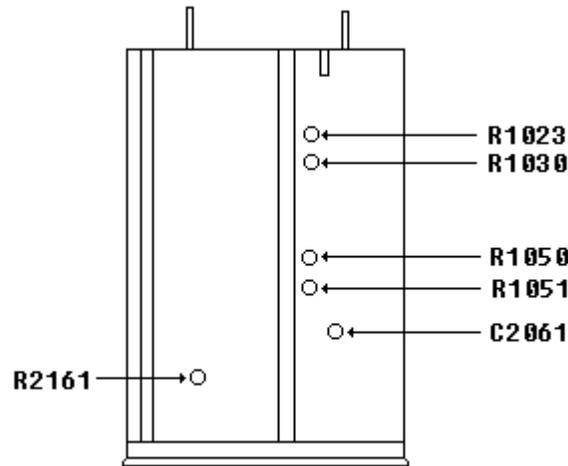
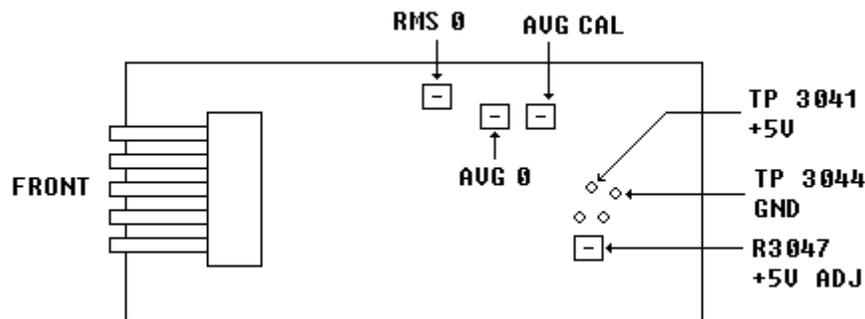
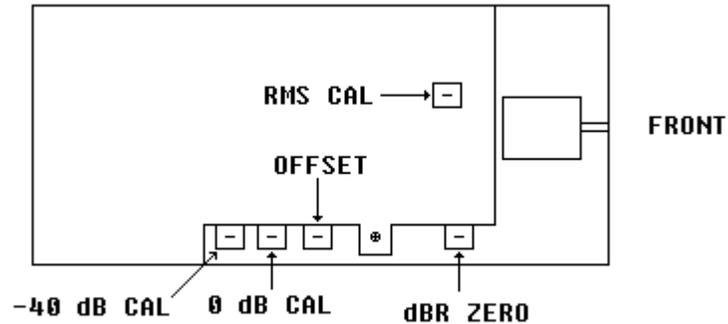

Figure 1. Test instrument - top view.
Figure 2. Test instrument - right view.
Figure 3. Test instrument - left view.
- (1) Disconnect equipment from TI **INPUT**.
- (2) Position controls as listed in (a) through (d) below:
- (3) Short TI **INPUT** - and +.
- (4) Connect oscilloscope **CH1** to TI **FUNCTION OUTPUT**.
- (5) Position oscilloscope controls for 200 mV/div, dc coupled and 200 ms/div sweep.
- (6) Press distortion range **2%** and **0.2%** pushbuttons in turn and note oscilloscope display jump amplitude. If jump amplitude is 100 mV or greater, adjust R1050 (fig. 1) for minimum jump amplitude, less than 100 mV, when switching between 2% and 0.2% (R).
- (7) Disconnect short and oscilloscope from TI.
- (8) Connect calibrator **OUTPUT HI** and **LO** to TI **INPUT +** and **-**.
- (9) Position controls as listed in (a) through (d) below:
- (10) Set calibrator for a 15 mV, 1 kHz output.
- (11) Adjust RMS 0 (fig. 2) until TI indicates 0.015 V (R).
- (12) Press **FUNCTION dBm 600Ω** pushbutton and record TI indication.
- (13) Release **RESPONSE RMS/AVG** pushbutton to **AVG** and adjust AVG 0 (fig. 2) until TI indicates same value recorded in (12) above (R).
- (14) Press **FUNCTION VOLTS** pushbutton.
- (15) Press **RESPONSE RMS/AVG** pushbutton to **RMS**.
- (16) Set calibrator for a 1.5 V, 1 kHz output.
- (17) Adjust RMS CAL (fig. 3) until TI indicates 1.500 V \pm 0.001 V (R).
- (18) Release **RESPONSE RMS/AVG** pushbutton to **AVG**.
- (19) Adjust AVG CAL (fig. 2) until TI indicates 1.500 V \pm 0.001 V (R).
- (20) Press **RESPONSE RMS/AVG** pushbutton to **RMS**.
- (21) Set calibrator for a 1 V, 60 kHz output.
- (22) Record TI indication.
- (23) Set **INPUT RANGE** switch to **20 V**.
- (24) Set calibrator amplitude to 10.00 V.
- (25) Adjust C2061 (fig. 1) for a TI indication 10 times greater than that recorded in (22) above (R).
(1) Set **INPUT RANGE** switch to **2V**.
(2) Set calibrator for a 774.6 mV, 1 kHz output.
(3) Adjust 0 dB CAL (fig. 3) until TI indicates 00.0 dBm (R).
(4) Set calibrator amplitude to 77.46 mV.
(5) Adjust R2161 (fig. 1) until TI indicates -20.0 dBm (R).